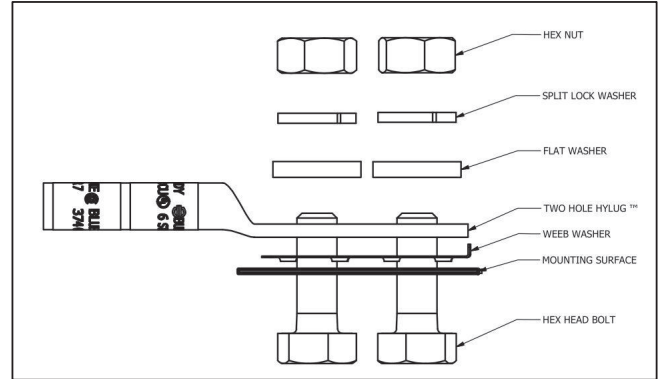

Figure 1: Mounting Requirements
2. Place the WEEB® underneath the tongue of the lug as shown in Figure 1.
3. Bolt the lug and WEEB® assembly to the mounting surface using the required hardware shown in Figure 1.